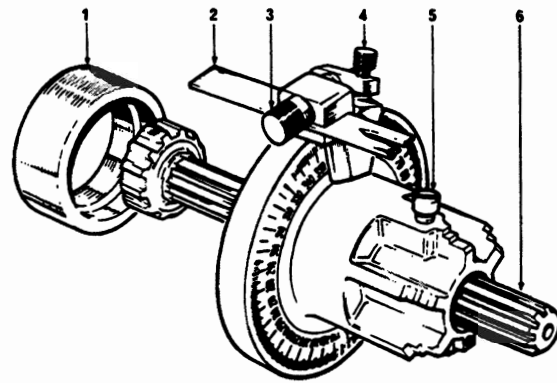
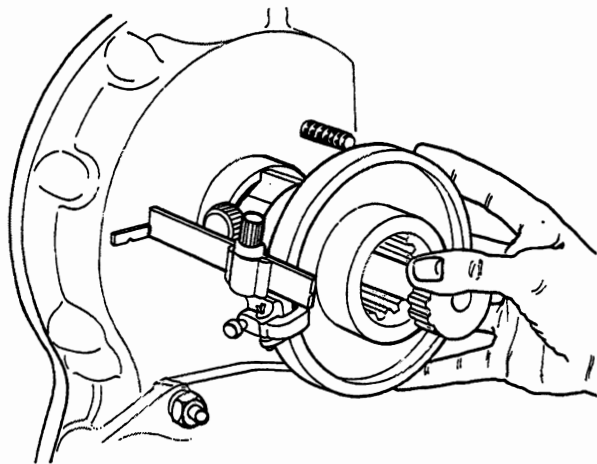
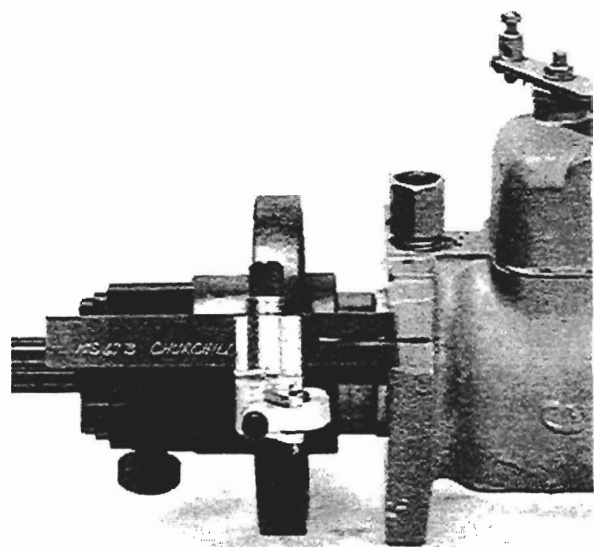

Fig. L7
Fig. L8
Fig. L9
After a new timing case has been fitted, the fuel injection pump timing must be checked by one of the two methods given in Section L and the rear of the timing case stamped with a timing mark to align with the timing mark on the fuel pump flange or straight edge of the timing tool pointer (see fig. L8).
3. Loosen screw (5, fig. L7) of timing tool MS.67B and remove splined shaft (6) (retain for tapered drive shaft pumps). The adaptor ring (1) is not used with this engine type.
4. Ensure pointer (2) of timing tool is in position with right angled straight edge to front of tool and notch at the bottom (see fig. L8). The end of the pointer with the straight edge must be kept away from the front of the body. Ensure that the flat of the washer fitted behind the screw (3) which fastens the pointer, is in position over pointer.
5. Loosen screw (4) which fastens bracket and set bracket so that the edge with a chamfer is in line with the correct engine check angle (see page C14).
7. Move tool forward complete with gear so that spigot of the tool fits in the hole in the timing case. For pumps with tapered drive shafts, fit timing tool in fuel pump position, slide splined shaft (6) forward into adaptor and lock with screw (5) (see figs. L7/L8). If pointer is 180° out of position, the engine is on the wrong stroke. Remove the tool and set engine on correct stroke. The fuel injection pump gear must be held in mesh when the engine is turned.
9. Turn tool clockwise from rear to remove backlash and check that mark on rear of timing case aligns with straight edge of the pointer (see fig. L8). Make a new line if necessary or, if there is
1. Loosen screw (5, fig. L7) and put the splined shaft with the small diameter to the rear to fit in the centre of the fuel injection pump hub. For pumps with tapered drive shafts remove splined shaft.
2. Ensure that pointer (2) of timing tool is in a position with slot to rear of tool and sides of the slot with chamfers are on the outside. The end of the pointer with the slot must be kept toward body of tool. Ensure that the flat of the washer fitted behind the screw (3) which fastens the pointer is in position over pointer.
3. Release screw (4) which fastens bracket and set bracket so that the edge with a chamfer is in line with the correct fuel injection pump mark angle (see page C14).
4. Fit timing tool with splined shaft in fuel injection pump hub and move tool toward the fuel pump to connect on the end of the hub and lock shaft in tool (see fig. L9). For pumps with tapered drive shafts, fit adaptor PD.67-3 onto drive shaft key and then locate timing tool over adaptor and drive shaft.
2. Remove the splined shaft from the timing tool (MS.67B) and slide the small splined open end of the timing tool onto the splined shaft of adaptor PD.67B-1. Lock the timing tool into position with securing screw (5, fig. L7).
3. Ensure the long pointer, part of tool PD.67B-6 is in position and sides of slot with chamfers are on the outside. Ensure that the flat of the washer fitted behind the screw (3, fig. L7) which fastens the pointer is in position.
4. Release screw (4, Fig. L7) which fastens bracket and set bracket so that the edge with a chamfer is in line with the correct fuel injection pump mark angle (see page C14).